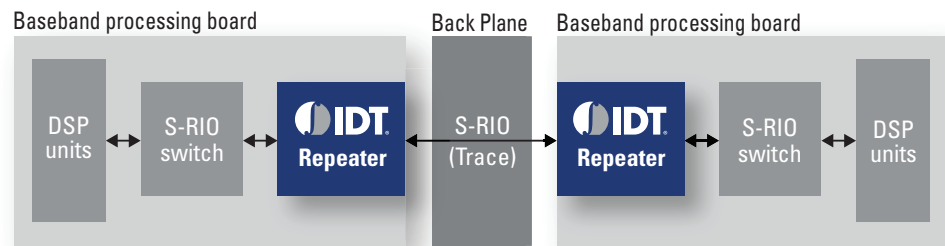

Figure 17: Wireless Systems with Backplanes
Carrier grade wireless systems are designed for scalability via (1) backplane-based modular designs or (2) a combination of midplane cards and external expansion cards. In the first case, during the transmission of Serial RapidIO packets between S-RIO cards, signals are significantly degraded as they pass through long trace lines on backplane boards, two connectors, and several vias. IDT S-RIO Repeaters can be used to ensure that differential eye openings at the receiver exceed 6.25Gbps S-RIO receiver standard specifications. Figure 17 depicts the use of IDT repeaters in wireless systems with backplanes